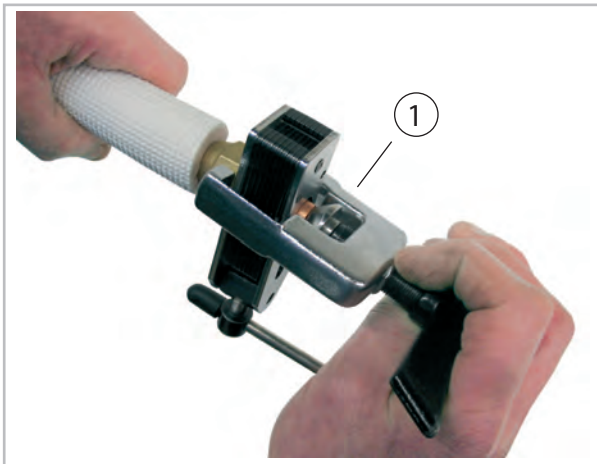

Fig. 38: Flanging the refrigerant piping
8. ➤ Prepare the laid refrigerant piping as shown below (Fig. 37 and Fig. 38).